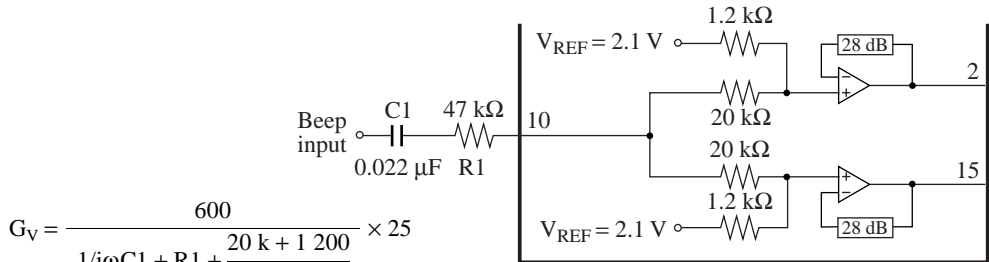

Figure 7
4) Attack time and recovery time can be changed by the external CR of pin 7. For recommended circuits (figure 7. 4.7k $\Omega$ , 10  $\mu\text{F}$ ), the above mentioned times are as follows :
- 1) The application circuit using the beep sound input is shown in figure 7. Connect the beep signals from the microcomputer to pin 10 via the capacitor C1 for DC cut and the resistor R1 for voltage gain adjustment.